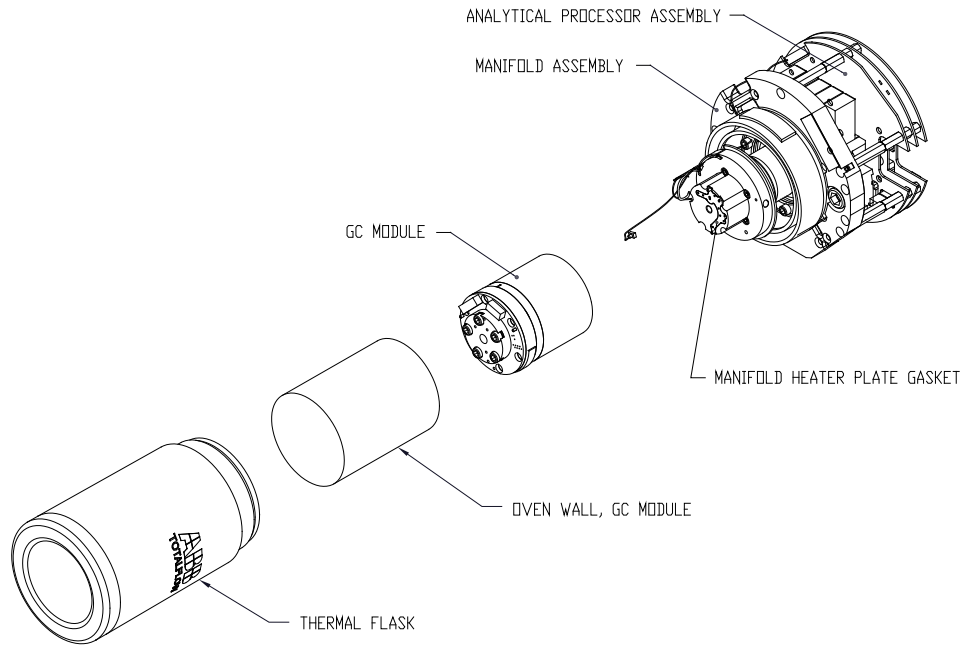

Figure 5-8 GC Module, Exploded View
- 10) Unscrew the thermal flask counterclockwise (see Figure 5-8). When loose, lift the flask from the unit. Set aside.